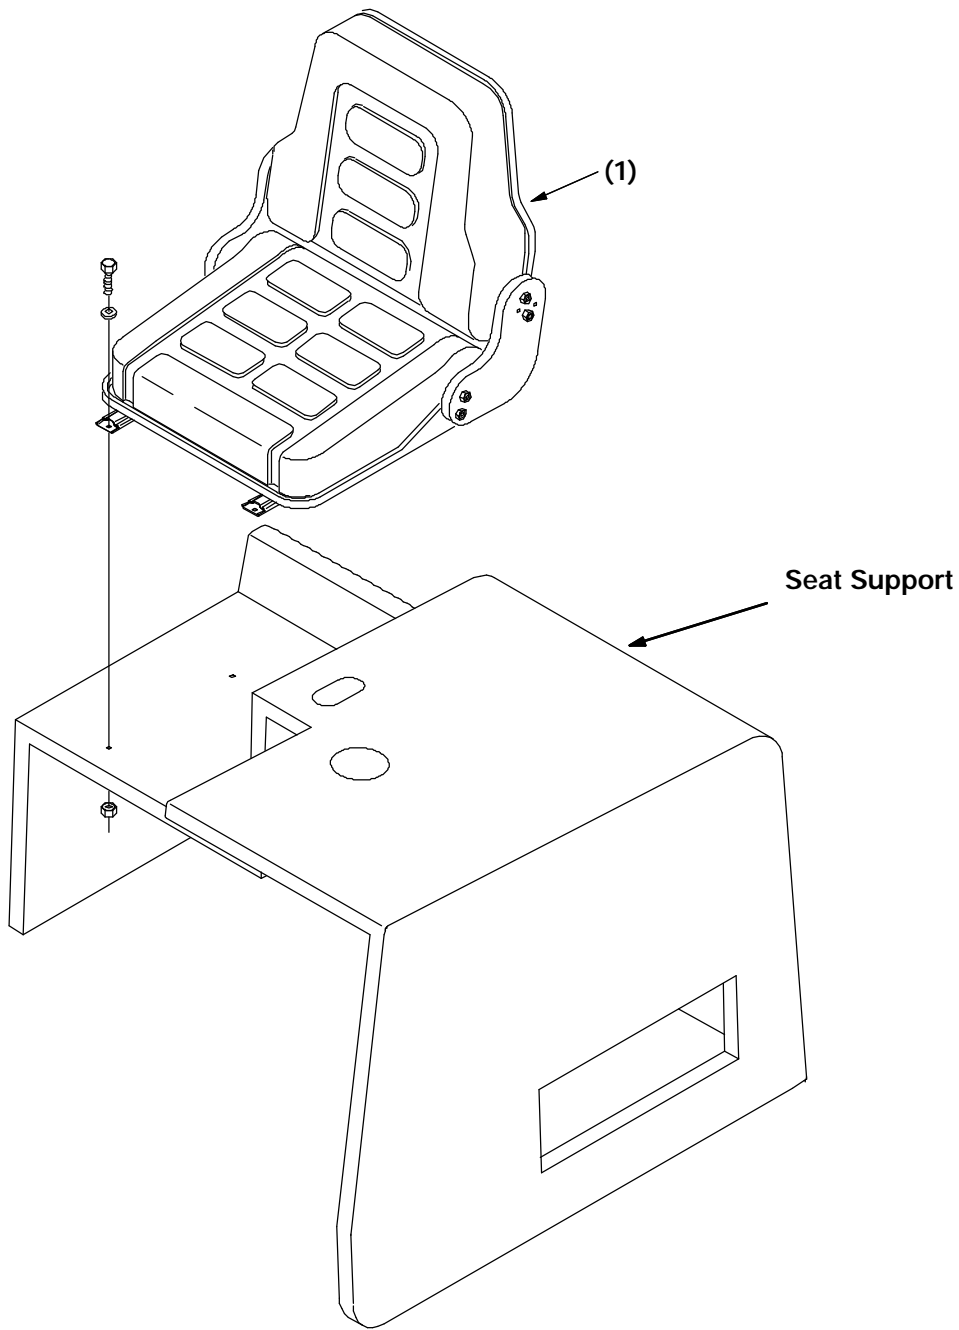

FIG. 1 - Installation of Deluxe Seat Assembly
(Refer to FIG. 1)
3. Install new rails with hardware provided in the deluxe seat assembly (1).
4. Install deluxe seat (1). (Refer to FIG. 1)